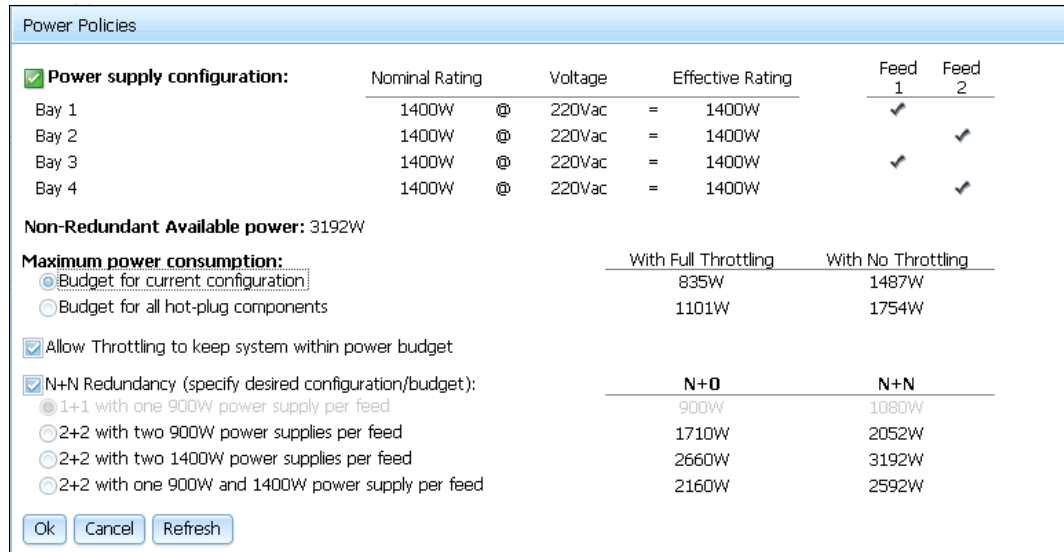

Figure 18 Power Policies window
- c. Select **Power Supply Redundancy**. The Power Policies window opens, as shown in Figure 18 on page 20.